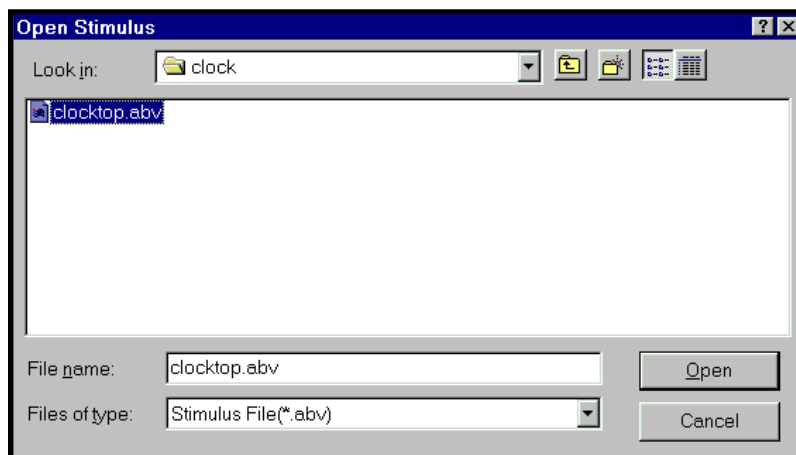

Figure 5-6. Open Stimulus Dialog Box
- Choose **File** ⇒ **Open Stimulus**. The Open Stimulus dialog box appears prompting you to select a stimulus file (\*.wdl, \*.abv, or \*.abl) (Figure 5-6).